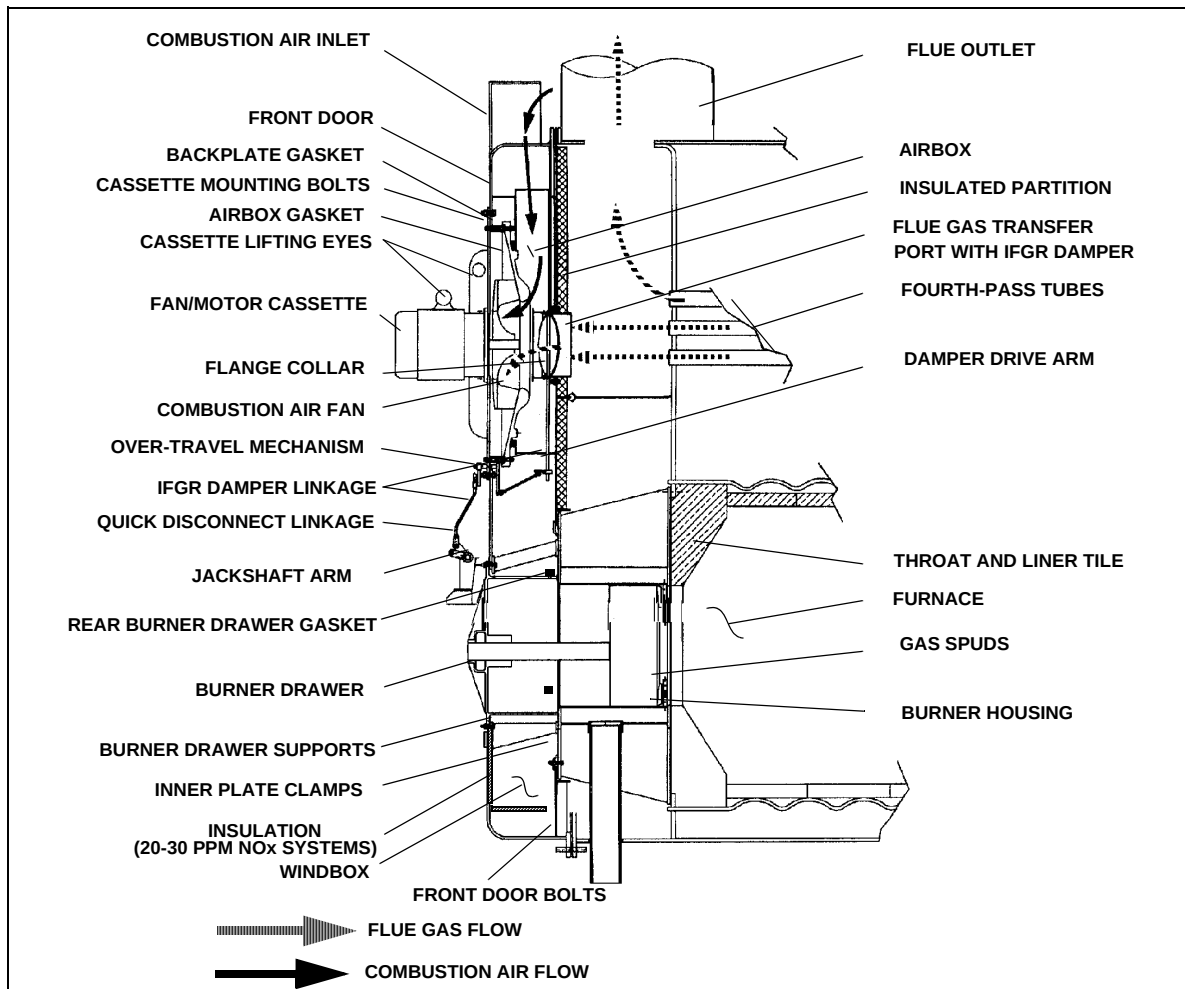

Figure 1-11 Induced Flue Gas Recirculation System, General Arrangement
Flue Gas Transfer Port, IFGR Damper, and Flange Collar (**Figure 1-11**). The flue gas transfer port is a tube that allows the flue gases to travel from the exit of the fourth-pass tubes to the entrance of the combustion air fan. The IFGR damper controls the volume of flue gas induced into the combustion air stream. The damper is located in the flue gas transfer port and is positioned by the control linkage.
8. IFGR Damper Linkage. The IFGR damper is positioned by the control linkage. The linkage could consist of a single arm, or it could consist of several arms driven from the jackshaft to provide modulating control (see **Figure 1-11**).
11. Burner Drawer (**Figure 1-11**). The gas spudding pattern for the IFGR system may be different than that of a non-IFGR, High-